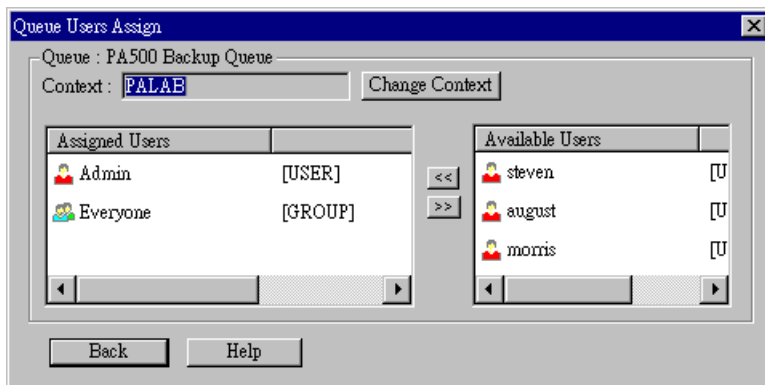

Figure 66: Assign Users to Queue (NDS PS mode)
- **User** - Assign Users to the NetWare Print Server object. (Optional) These users will then be able to view the status of the NetWare Print Server object. This is optional; printing requires only that users be assigned to queues, not to the NetWare Print Server. The screen for assigning users to a NetWare Print Server is identical to *Figure 66: Assign Users to Queue (NDS PS mode)*